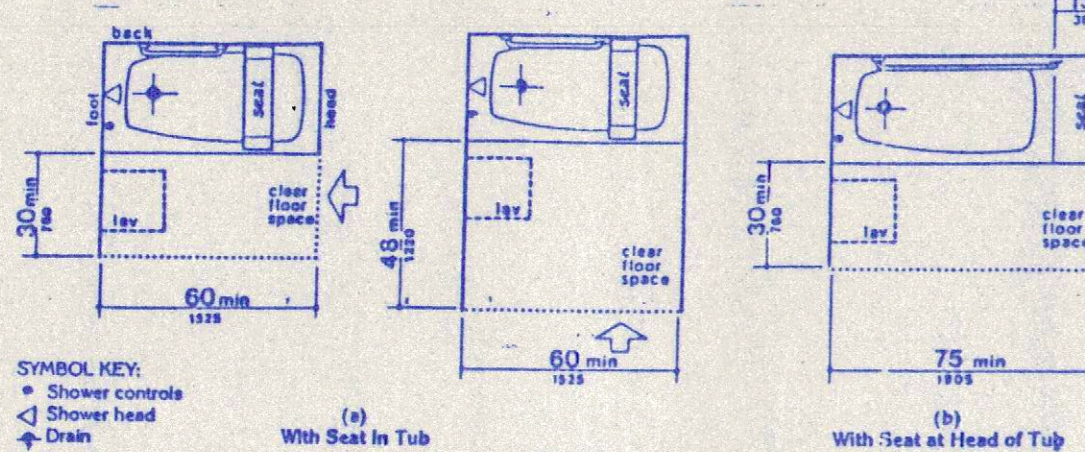

Fig. 33 Clear Floor Space at Bathtubs
4.20.2 Floor Space. Clear floor space in front of bathtubs shall be as shown in Fig. 33.
4.20.3 Seat. An in-tub seat or a seat at the head end of the tub shall be provided as shown in Fig. 33 and 34. The structural strength of seats and their attachments shall comply with 4.26.3. Seats shall be mounted securely and shall not slip during use.
4.20.4 Grab Bars. Grab bars complying with 4.26 shall be provided as shown in Fig. 33 and 34.